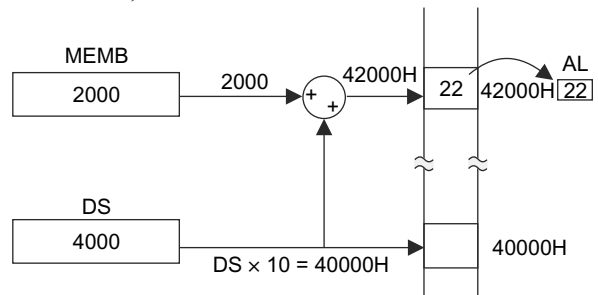

Fig. 6.2 Direct memory addressing
The instruction `MOV DS:[2000H], AL` means that the content of the AL register will move to memory location $DS \times 10 + [2000H]$. The computation of memory location for the operand is illustrated in Fig. 6.2. In this figure, the effective address (EA) is 2000H and the physical address (PA) is $PA = DS \times 10 + EA = 4000 \times 10 + 2000 = 42000$. The physical address (PA) computation for other segment registers with same effective address is given below: